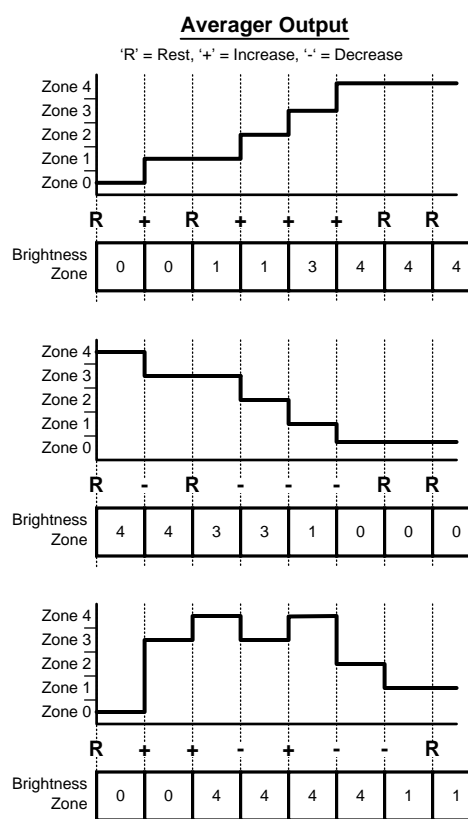

Figure 29. Brightness Zone Change Examples
- To Increase the brightness zone, the Averager output must have increased for at least 2 averaging periods or increased and remained at the new level for at least two averaging periods ('+' to '+' or '+' to 'Rest' in Figure 29).
- To decrease the brightness zone, the Averager output must have decreased for at least 2 averaging periods or decreased and remained at the new level for at least two averaging periods ('-' to '-' or '-' to 'Rest' in Figure 29).
In the case of two consecutive increases or decreases in the Averager output, the LM3530 will transition to zone equal to the last averager output (Figure 29).